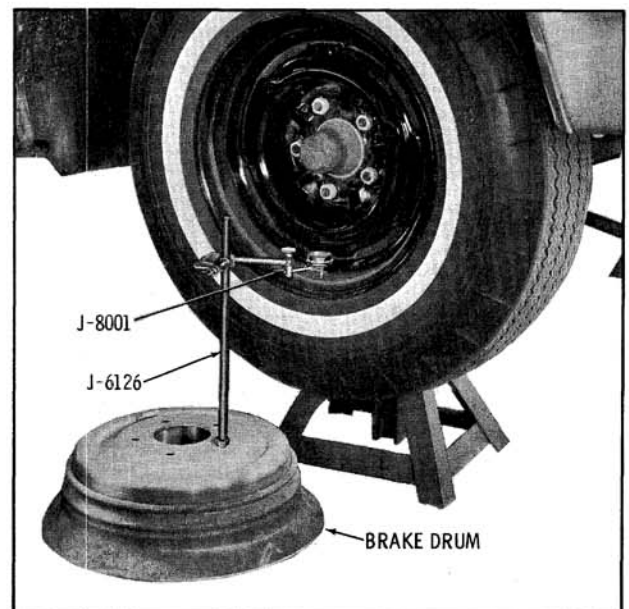

Fig. 9-9 Ball Joint Vertical Check
2. Position dial indicator as shown in Fig. 9-9.